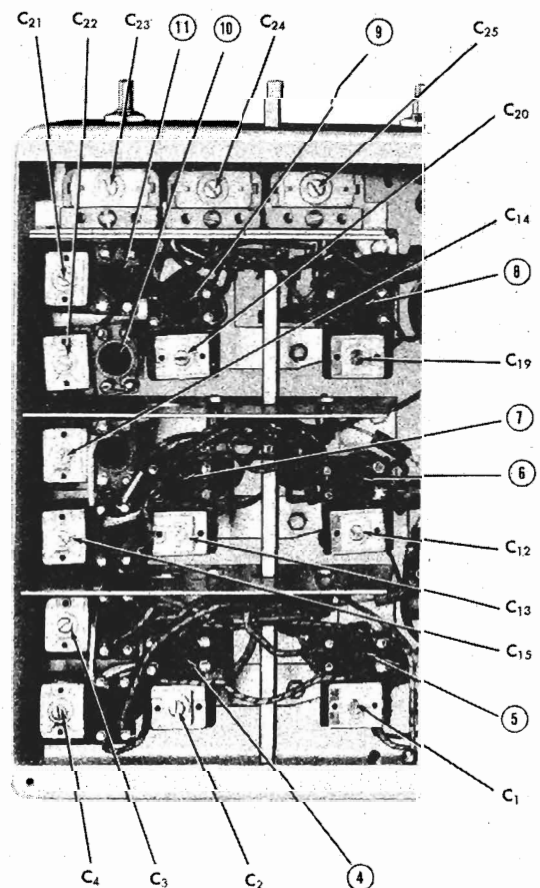

Figure 5-1. Radio Receiver Model S-40, view showing aligning points.
(2) I-F Amplifier Alignment. - (See Fig. 5-1)
(e) Adjust transformers T-13, T-14, and T-15 for maximum output meter reading using just enough signal generator output to provide a good resonant swing on the output meter. The signal level at the generator should be approximately 52 microvolts for a 500 milliwatt audio output level. Repeat the alignment procedure until assured of accurate alignment. Refer to figure 5-1 for the location of i-f transformer adjustment screws #1 through #3 inclusive on transformers T-13, T-14, and T-15.
NOTE - Refer to figure 5-1 for all r-f alignment points.